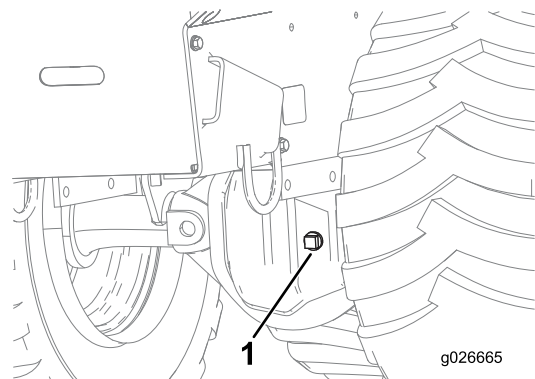

Figure 36
2. Remove the fill plug from 1 of the axle differentials (Figure 36).